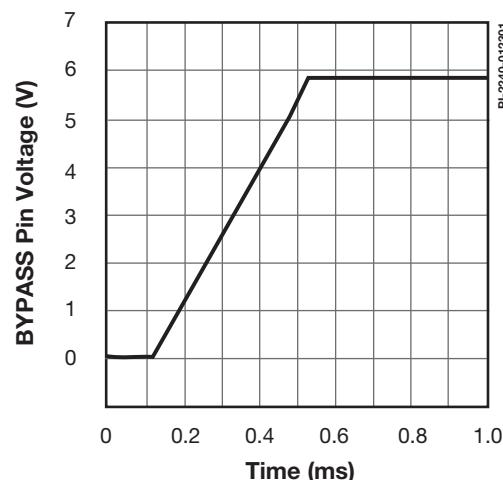

Figure 15. BYPASS Pin Start-up Waveform.
- C. See Typical Performance Characteristics section Figure 15 for BYPASS pin start-up charging waveform.